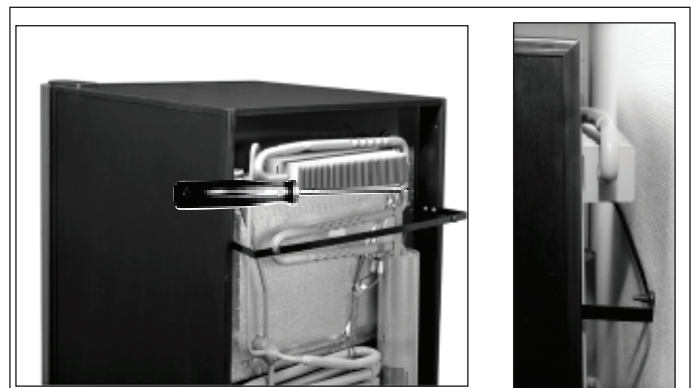

Figure 2-3.
3. Attach the distance bar using the two screws at the top back on each side of the cellar. The rod ensures the correct distance to the wall behind. (See Figure 2-3).